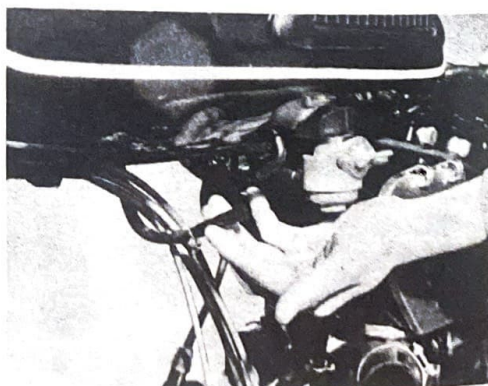

Fig. 5-8-1
- 2) Remove the level tube at the tank bottom. (Fig. 5-8-1)